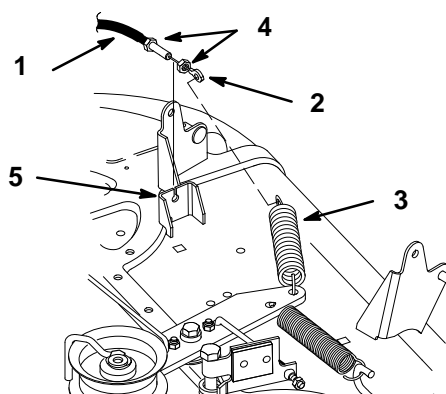

Figure 43
- Remove first jam nut and thread second jam nut onto the blade control (PTO) cable all the way. Rout cable through slot in deck bracket and thread second jam nut onto cable (Fig. 43).
- Hook end of blade control (PTO) cable onto idler spring (Fig. 43).